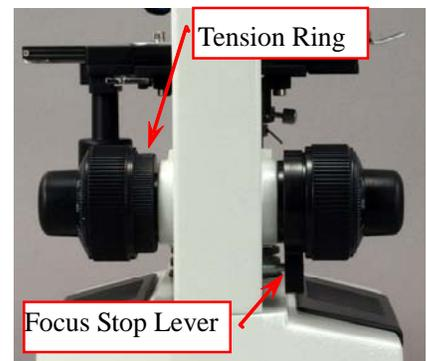

Fig.8
3.8 Adjusting focus tension (Fig.8)
3.9 Adjusting focus stop level (Fig.8)